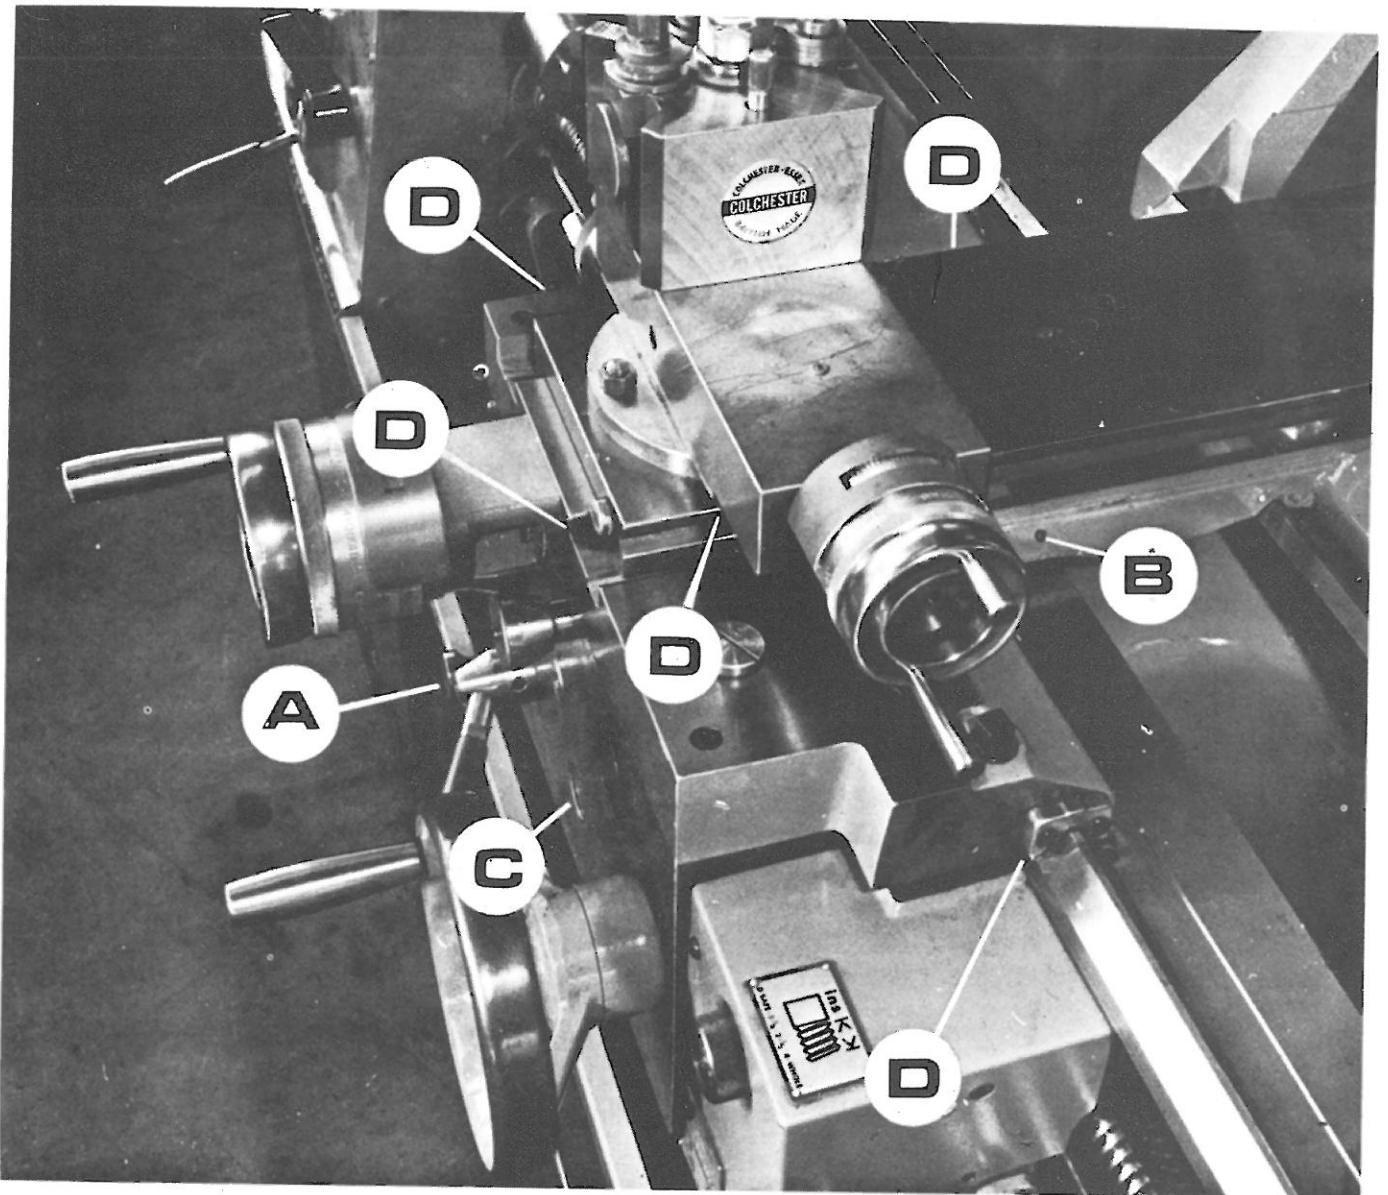

Fig. 27
**Apron and Slideways.** (Fig. 27) A manually operated lubricating pump (A) is incorporated into the apron. Drawing oil from the apron reservoir it enables the operator to ensure that the slideways are kept adequately lubricated. The pump should be operated; before commencing work and occasionally during the work period, until oil flows from the tell tale hole (B) in the carriage saddle, indicating that the system has received a full supply of oil. Should no oil appear at (B) refill the reservoir to the level of the oilsight (C) with Shell Tonna Oil 33.